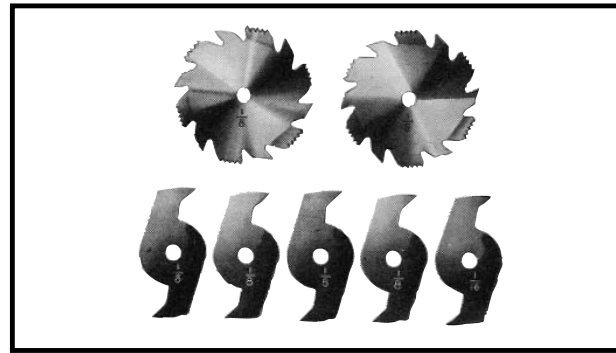
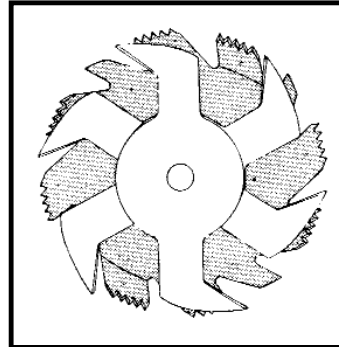
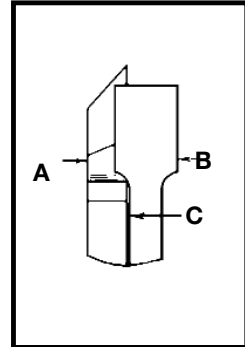

Fig. 48A
Fig. 49
Fig. 50
1. Dadoing is cutting a rabbet or wide groove into the work. Most dado head sets are made up of two outside saws and four or five inside cutters, (Fig. 48A). Various combinations of saws and cutters are used to cut grooves from 1/8" to 13/16" for use in shelving, making joints, tenoning, grooving, etc. The cutters are heavily swaged and must be arranged so that this heavy portion falls in the gullets of the outside saws, as shown in Fig. 49. The saw and cutter overlap is shown in Fig. 50, (A) being the outside saw, (B) an inside cutter, and (C) a paper washer or washers, used as needed to control the exact width of groove. A 1/4" groove is cut by using the two outside saws. The teeth of the saws should be positioned so that the raker on one saw is beside the cutting teeth on the other saw.